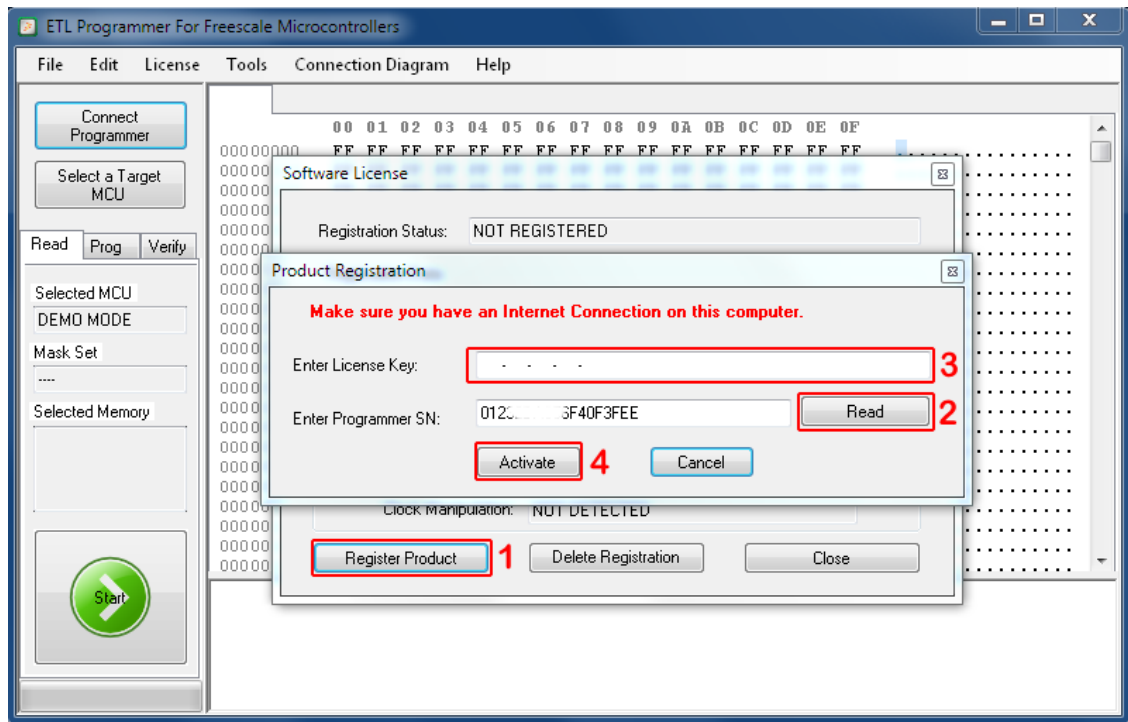

Figure 15 MC805P18-Programmer software activation, step 2
- Press the "Read" button to read the HYPERF PROG board serial number. (Figure 15).